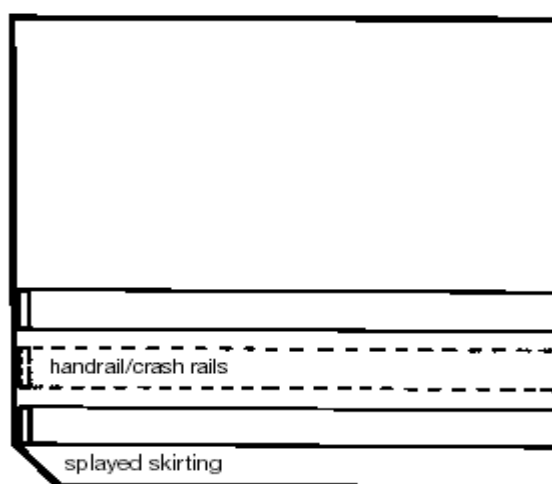

Figure 4 Severe duty and heavy duty, main corridors
- 3.7 Mid-height handrail or crash rail, lower height crash rails and splayed skirtings. Corridors designated as categories MD, HD and SD require some form of corner protection; the type varies according to vehicles expected. External angles in large rooms may also require corner protection (see Figure 4).